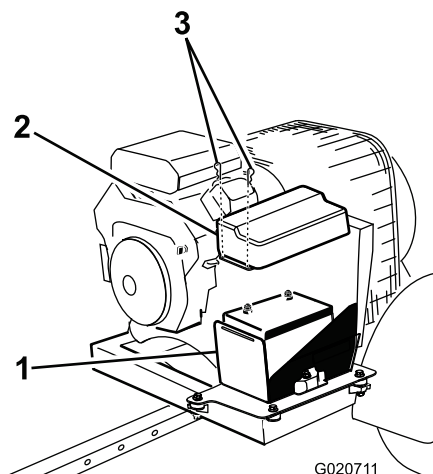

Figure 4
1. Remove the clips securing the battery cover to the battery box (Figure 4). Remove the cover from the box.